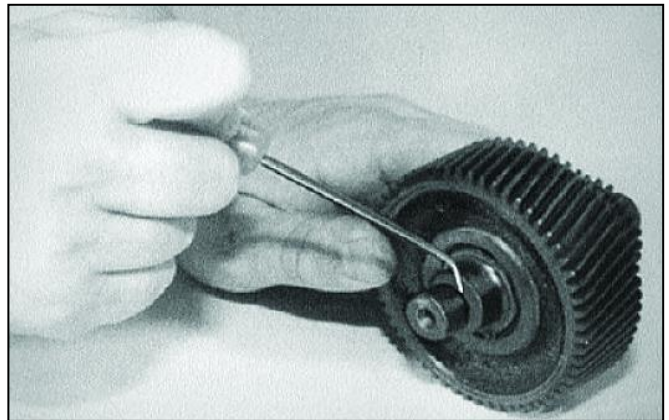

Figure 7-16
19. See Figure 7-16. Remove O-rings (12) at each end of intermediate shaft (13) on bearing shoulders. See Figure 7-16.